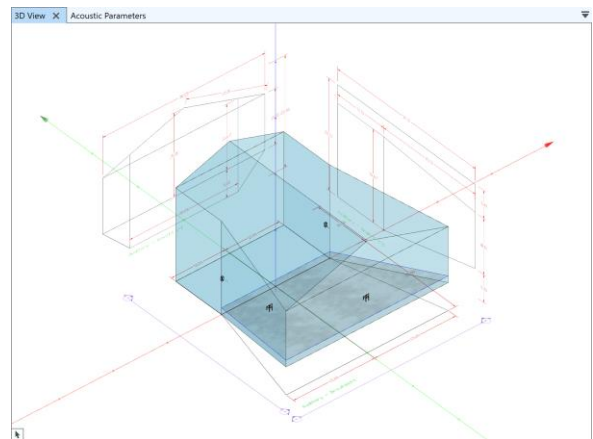

Figure 4.15 Parallel Perspective.
- In PARALLEL mode, an orthographic projection is used instead of a central projection. In this mode, objects that are farther away will not appear smaller than objects closer to the viewer (Figure 4.15). This option corresponds to a viewing location at a large distance. It is often useful, especially for drawing or verifying models without perspective distortion.